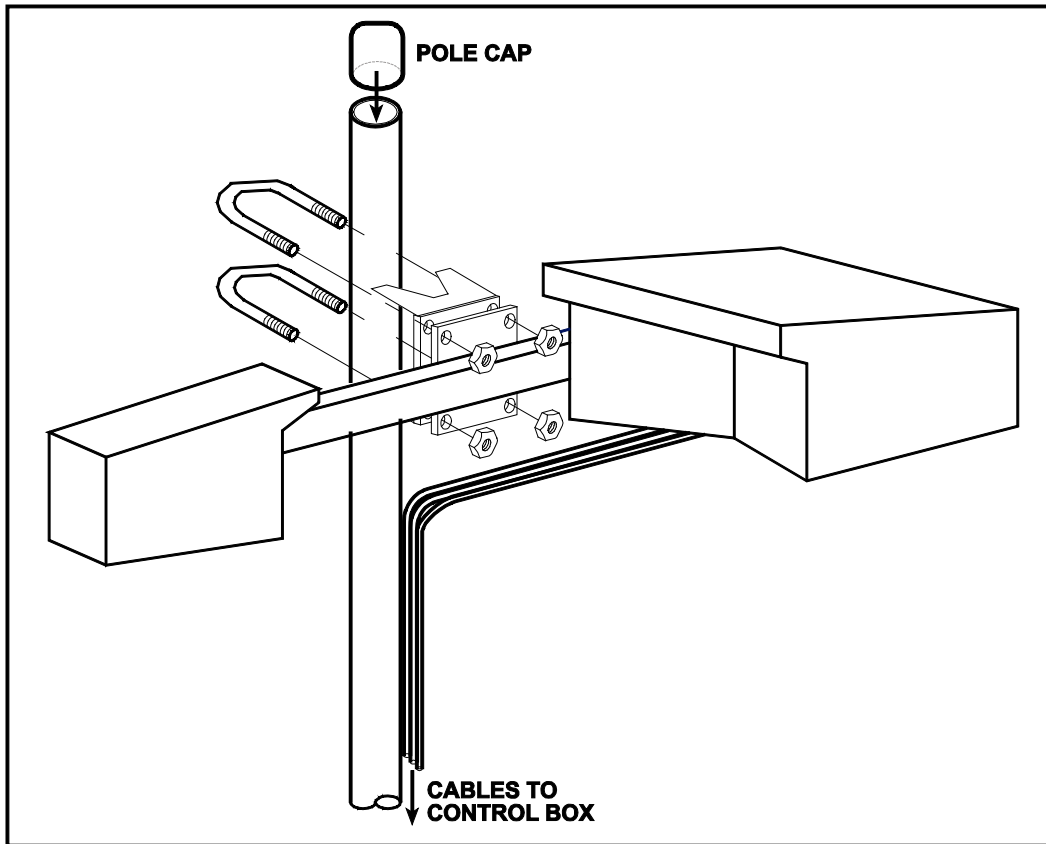

Figure 2. Mounting Present Weather Sensor Head
1. Attach the sensor head using the two U-bolts to connect the mounting plate on the sensor head and the mounting bracket with the $\frac{1}{4}$ -20 hex locking nuts as shown in Figure 2. To mount the head to a vertical mast or tower section, install the U-bolts and mounting bracket horizontally. To mount to a horizontal tower section or boom arm, install them vertically using the same holes.